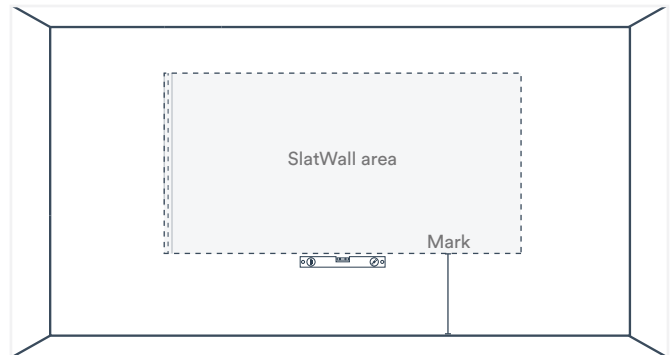

Fig. 23
3. Use a level to extend a line across the intended width of your installation (Fig. 23).